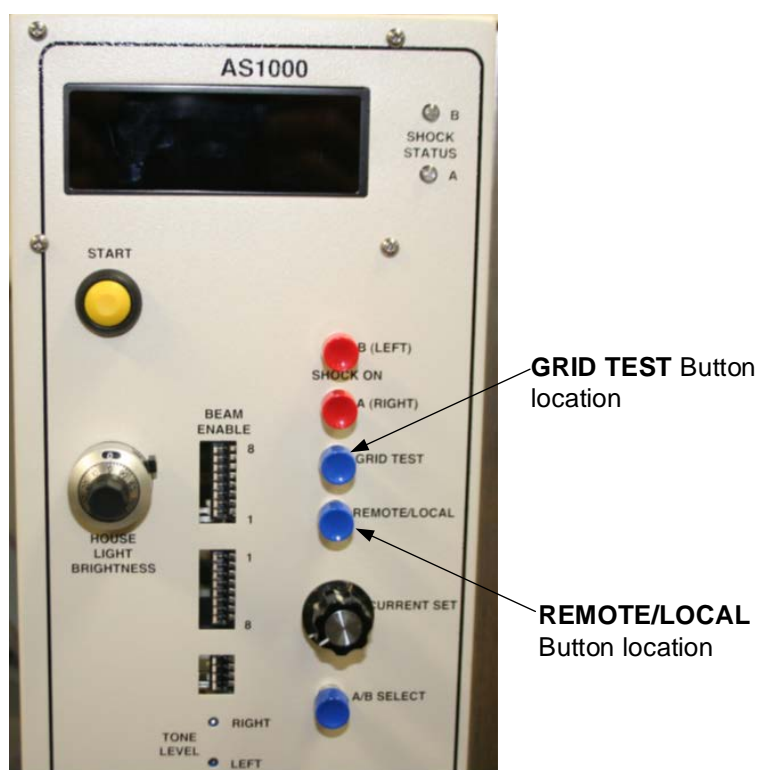

Figure 2-20. GRID TEST and REMOTE/LOCAL Button Locations
1. First, press the **REMOTE/LOCAL** button located on the Station Service Pack (Figure 2-20).